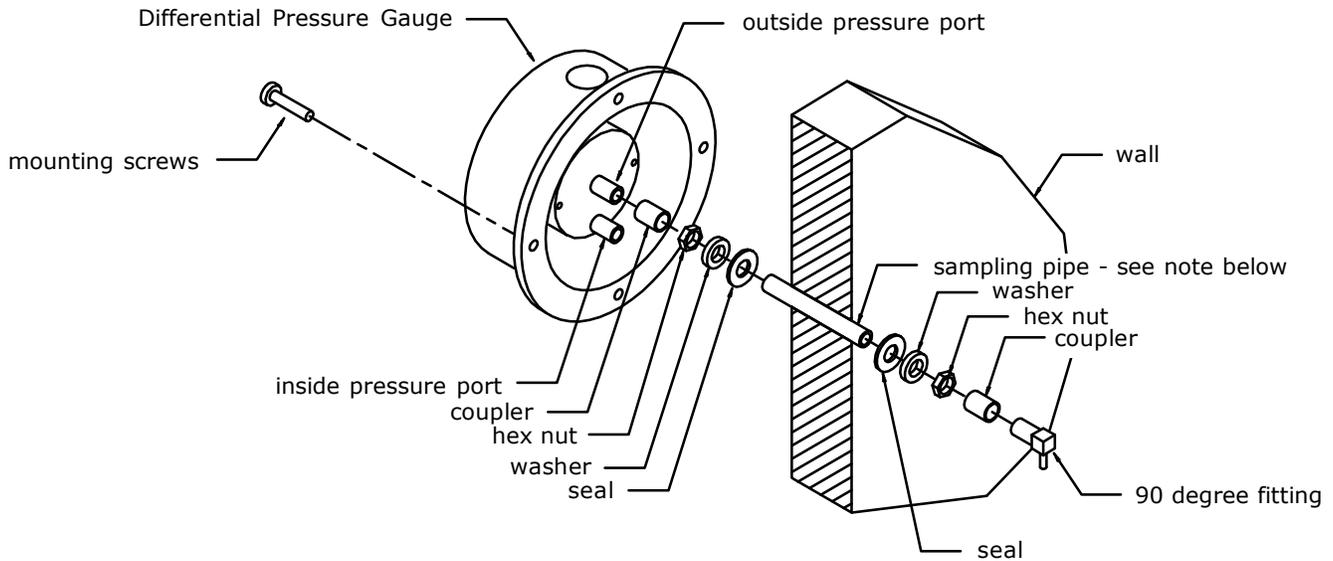

Figure 2
3. Insert the hollow threaded rod through the hole and assemble the seals and threaded fasteners as shown in Figure 2.